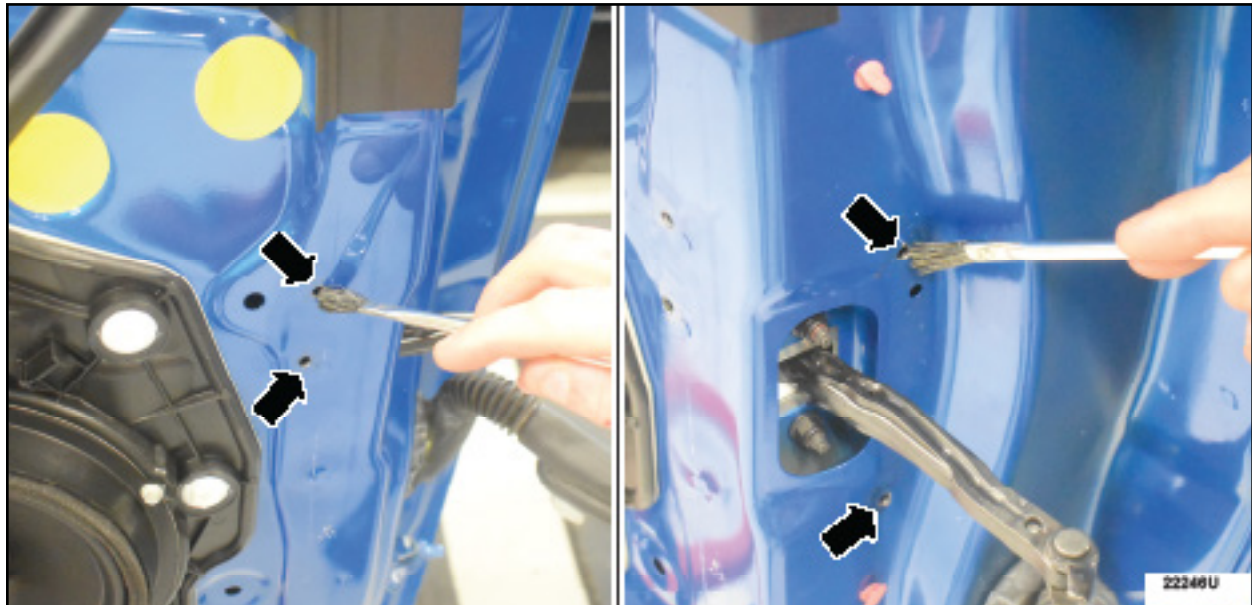

FIGURE 14
12. Remove the template from the door. Using a brush, apply Motorcraft® PM-13-A (anti-corrosion coating) to the bare metal portion of each hole that was just drilled out. See Figure 14.